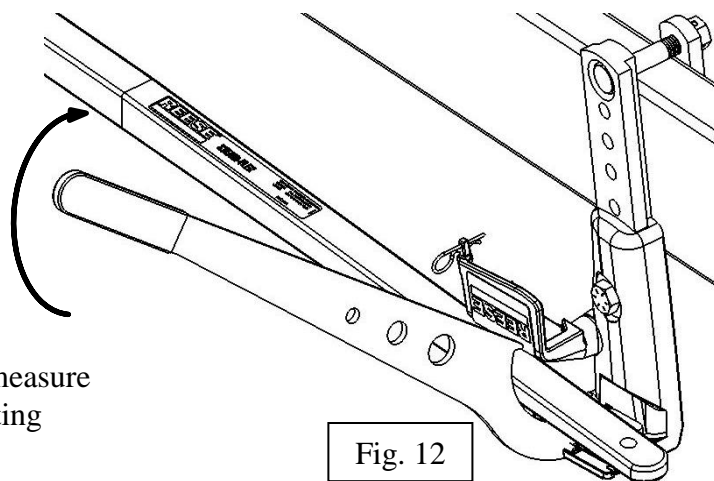

Fig. 12
26. Use the lift handle to place the spring bar onto the friction pads (See Fig. 12).